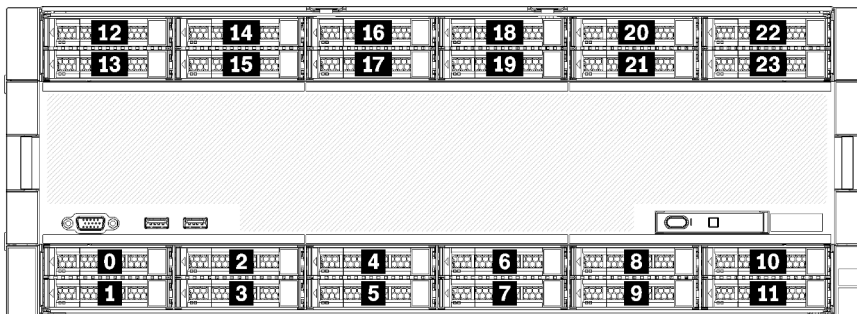

Figure 3. Drive bay locations
- Top two drives support SAS, SATA, or NVMe interface drives (Lenovo AnyBay). The server can support up to 12 NVMe drives, depending on the server configuration. The NVMe-capable drive bays are the even-numbered bays as shown in Figure 3 “Drive bay locations” on page 14.